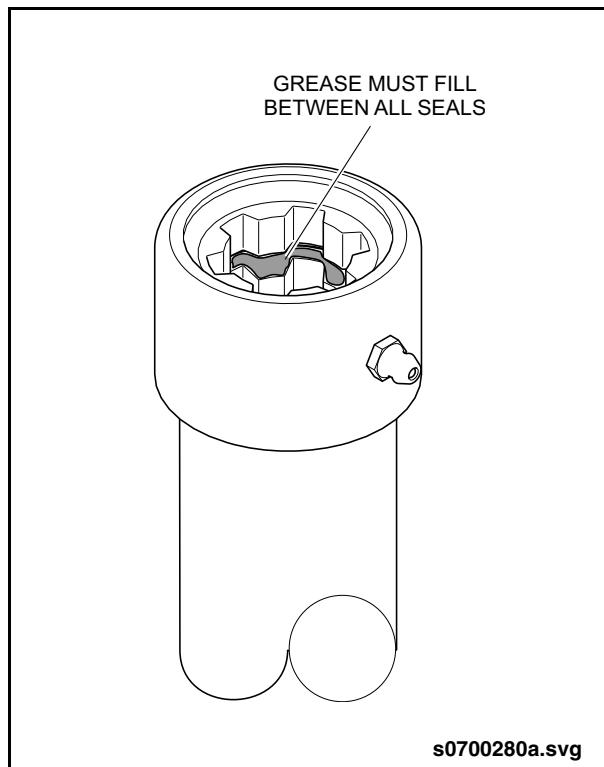

Fig. PM-20: Steering Driveshaft Seal Inspection
4. Completely remove yoke shaft and check the seal of the dust cap. Grease must completely fill between both lips of the seal. See “Fig. PM-20: Steering Driveshaft Seal Inspection” on page 46.